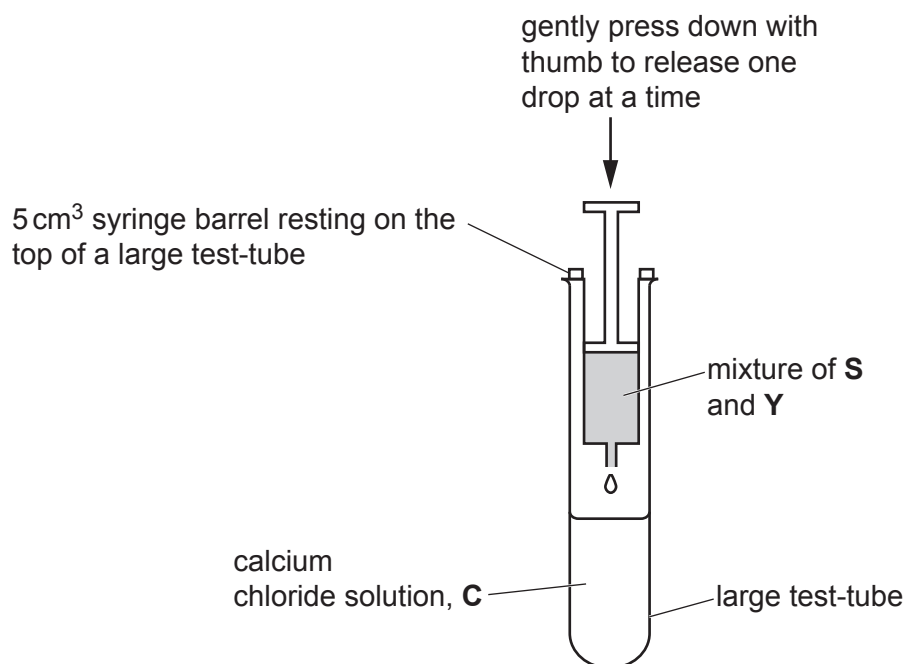

Fig. 1.1
step 5 Position the 5 cm³ syringe over the large test-tube containing **C** as shown in Fig. 1.1.